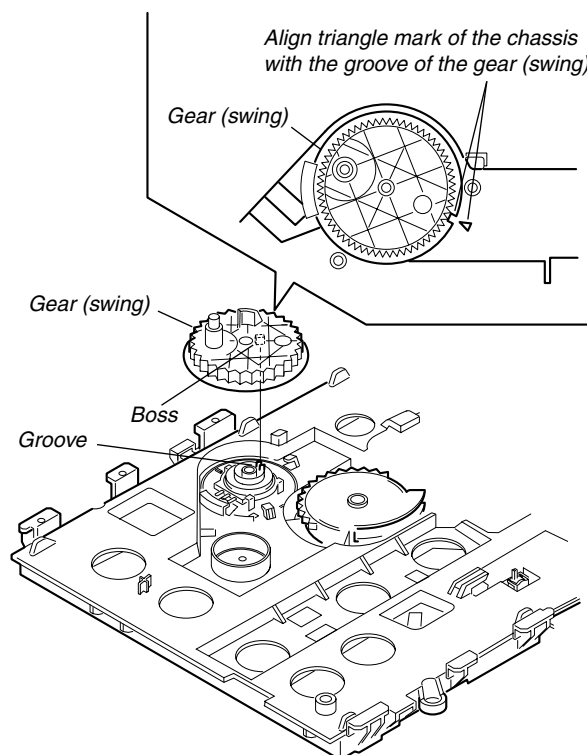

Fig. 6.
- 3) Connect the boss of the gear (swing) with the groove of the rotary encoder and mount the gear (swing). (See Fig. 6)
- 4) Align triangle mark of the chassis with the groove of the gear (swing). (See Fig. 6)